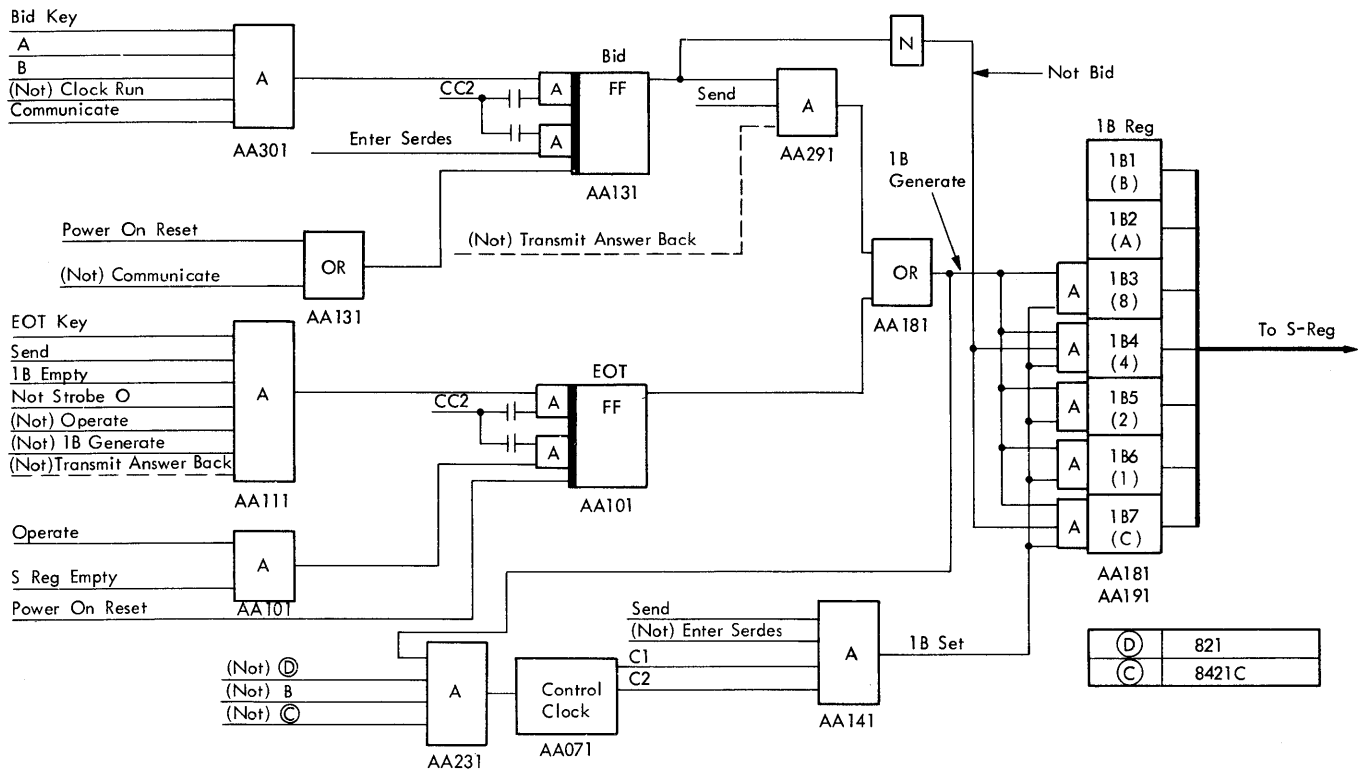

Figure 3-1. Generate Control Characters
The control character inputs to the 1B-register are shown in Figure 3-1. To start sending, the operator presses the Bid key. If (1) the 2740 is in control receive mode, (2) the Local/Communicate switch is in the COMM position, and (3) the serdes clock is not running, the 'bid' trigger turns on. The 'bid' trigger on and the 'send' line up bring up '1B generate.' '1B generate' conditions one leg of the ANDs to the '1B3,' '1B4,' '1B5,' '1B6,' and '1B7' triggers of the 1B-register. '1B generate' also gates on the control clock. '1B set' comes up when both the 'C1' and 'C2' outputs of the control clock are active, the 'send' line is up, and the 'enter serdes' trigger is off. '1B set' completes conditioning the ANDs to the '1B3,' '1B5,' and '1B6' triggers. The 'bid' trigger prevents turning on the '1B4' and '1B7' triggers. Thus, the Ⓐ character (821) is loaded into the 1B-register.
To stop sending, the operator presses the EOT key to return the sending and receiving terminals to control receive mode. This is accomplished by generating and sending the EOT character Ⓑ. When the EOT key is pressed, one leg of an AND to turn on the EOT trigger is conditioned (see Figure 3-1). The other conditions are 'send,' '1B empty,' 'not 1B generate,' 'not strobe O,' and 'not operate.' These conditions ensure that: